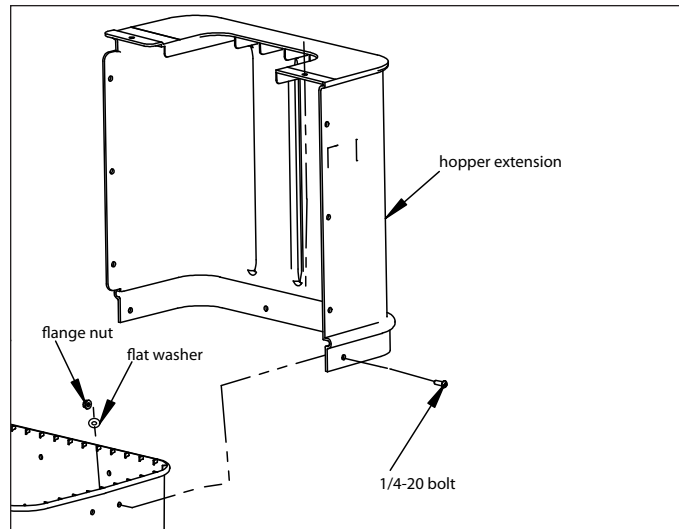

Figure 23
- 4) Follow Step 1 to install the second extension half to the opposite side of the hopper. Again, the bottom groove of the hopper extension should fit over the rim at the top of the hopper. Align the bolt holes between the top of the hopper and bottom of the hopper extension and insert hardware. **SEE FIGURE 23.**